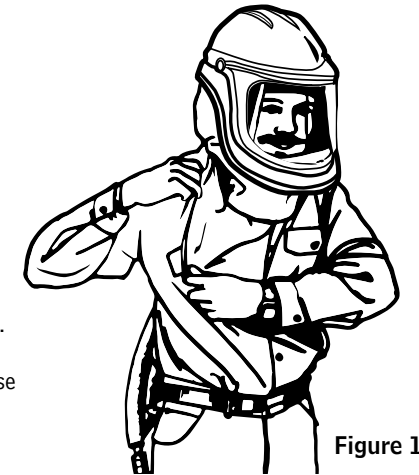

Figure 17
- 6) Tuck inner bib of hood into shirt or protective clothing (see Figure 17)